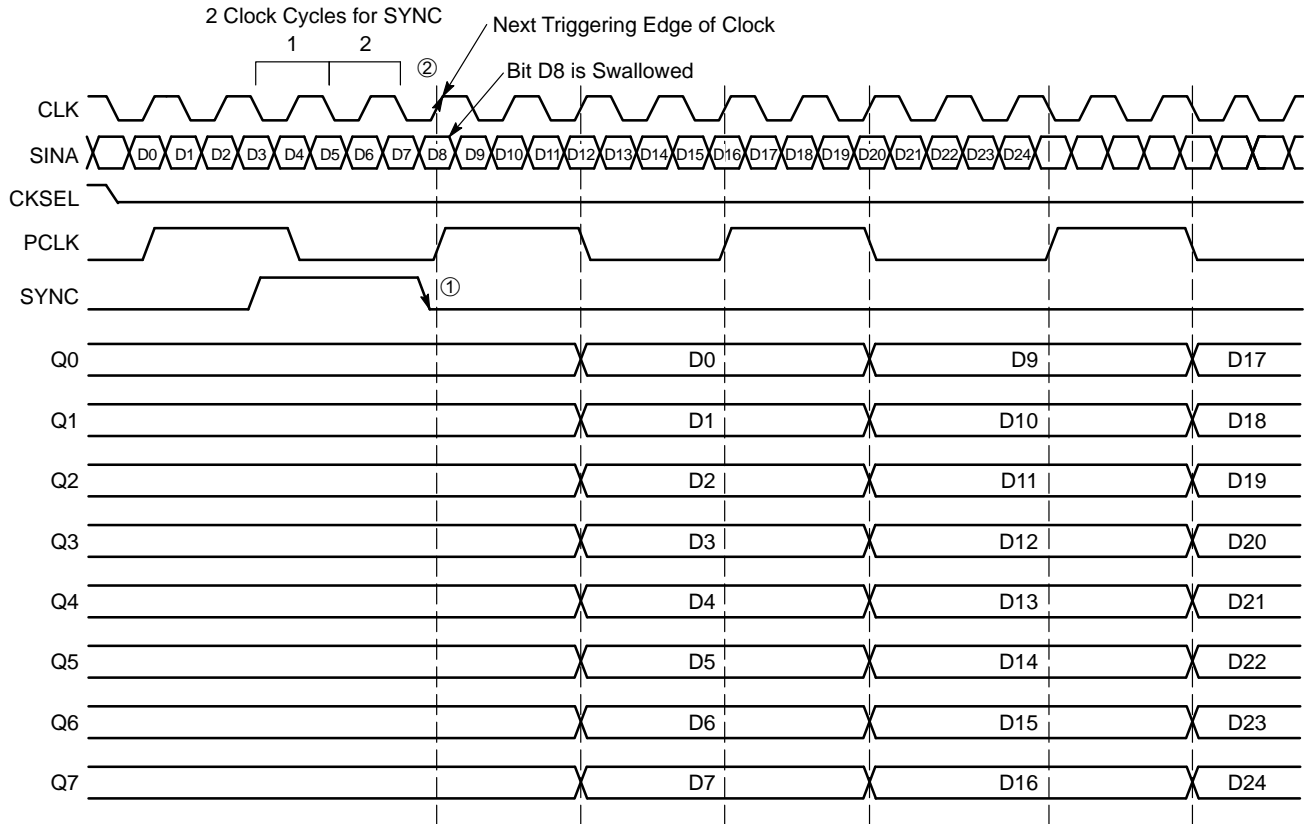
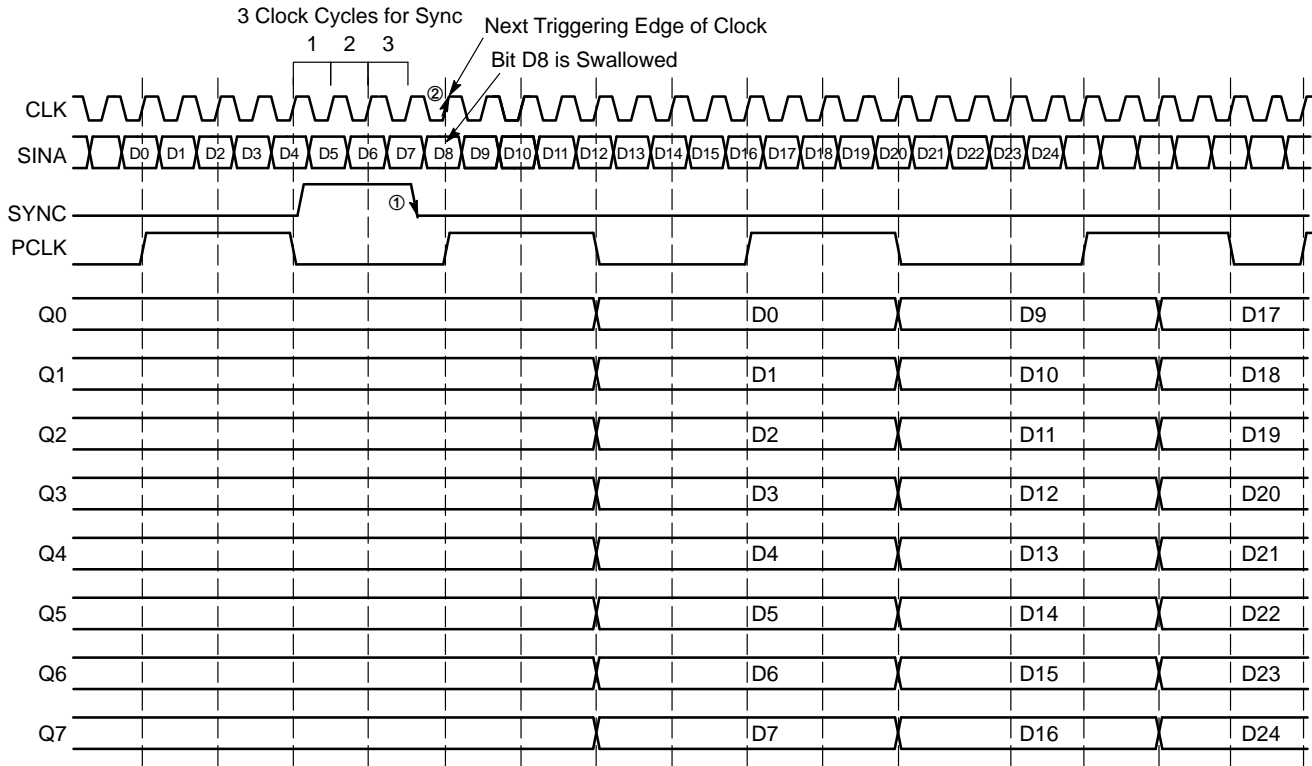

Figure 10. Timing Diagram A. 1:8 Serial to Parallel Conversion with SYNC Pulse at CKSEL LOW
Figure 11. Timing Diagram A. 1:8 Serial to Parallel Conversion with SYNC Pulse at CKSEL HIGH
To allow the user to synchronize the output byte data correctly, the start bit for conversion can be moved using the SYNC input pin (pin 2). Asynchronously asserting the SYNC pin will force the internal clock to swallow a clock pulse, effectively shifting a bit from the Q_n to the Q_{n-1} output as shown in Figure 10 and Figure 11. For CKSEL LOW, a single pulse asynchronously for two consecutive
clock cycles shifts the start bit for conversion from Q_n to Q_{n-1} . The bit is swallowed following the two clock cycle pulse width of SYNC^① on the next triggering edge of clock^② (either on the rising or the falling edge of the clock). Each additional shift requires an additional pulse to be applied to the SYNC pin. (See Figure 10)
triggering edge of clock^② (on the rising edge of the clock only). Each additional shift requires an additional pulse to be applied to the SYNC pin. (See Figure 11)